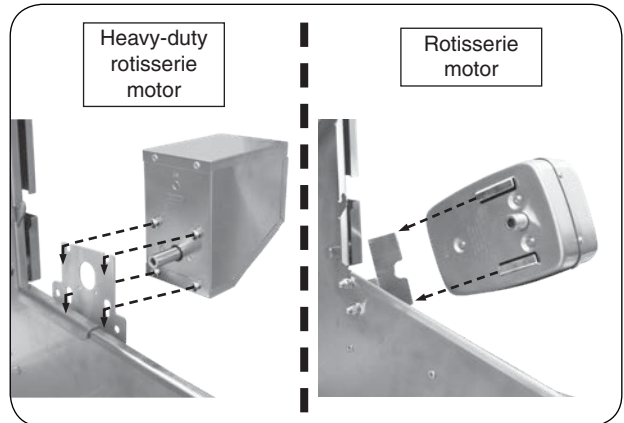

Fig. 29-2 Install rotisserie motor
2. Slide the rotisserie motor fully onto the motor bracket located on the right side of the grill (see Fig. 29-2) and connect it to a power source (do not turn on).